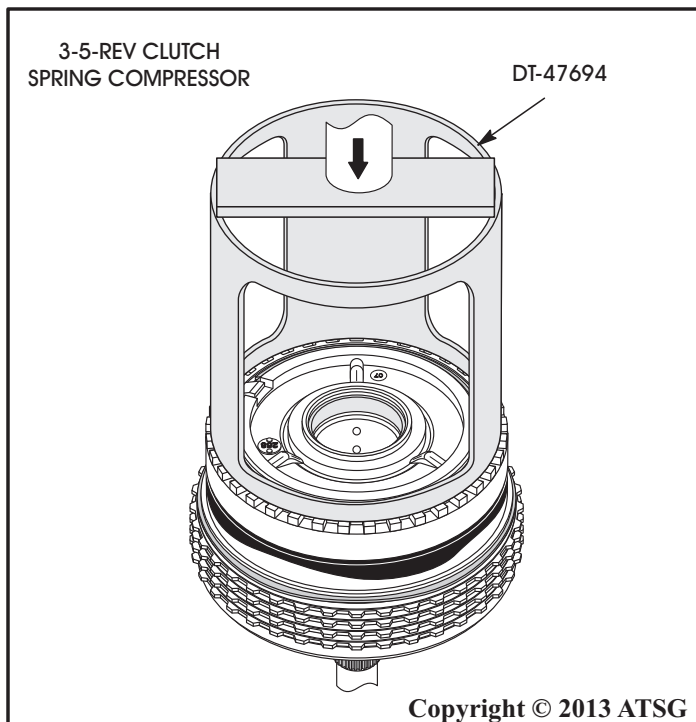

Figure 161
54. Compress the input speed sensor reluctor ring just enough to install the snap ring using spring compressor tool, as shown in Figure 161.